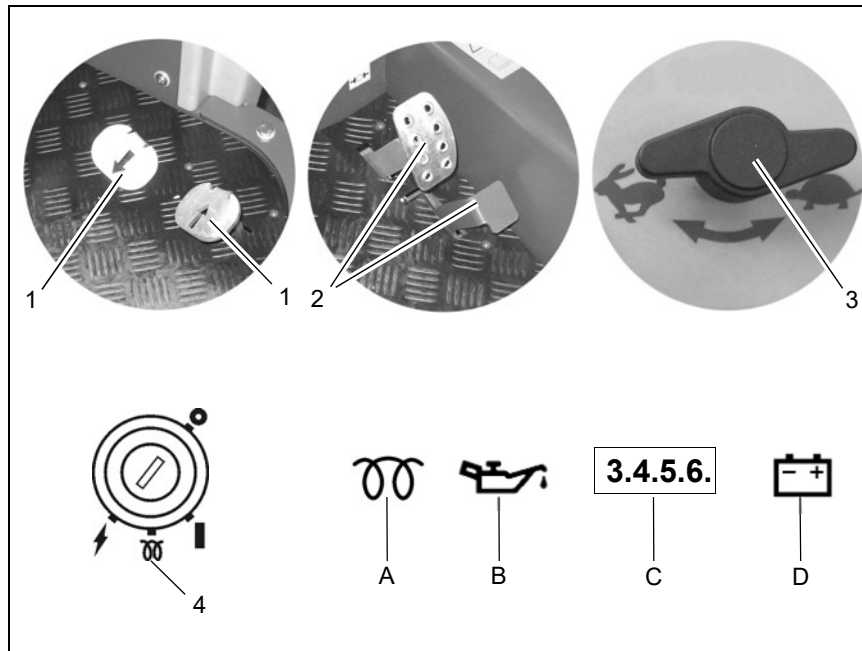

Fig.4
1. The accelerators (Fig. 4/1) must be in their neutral setting.
2. The vehicle's parking brake must be applied (Fig. 4/2).
3. Set the engine speed switch (Fig. 4/3) to working speed (hare).
4. Turn the ignition key clockwise to the preheating device icon (Fig. 4/4). Allow to preheat until the control lamp (Fig. 4/A) goes out (max. 20 seconds).
- The operating hour counter (Fig. 4/C) displays the software version, possibly the last diagnostic code and the operating hours in succession. The control lamps for the engine oil pressure (Fig. 4/B) and charge control (Fig. 4/D) light up.